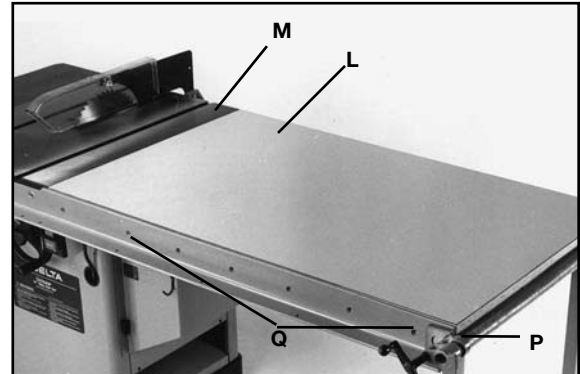

FIG. 12
9. Place table assembly (L) Fig. 12, in position between the two rails, as shown. Make sure end of table is flush against saw table (M). Using a straight edge make sure table (L) is in the same plane and level with saw table (M). Lightly tap up or down and adjust leg leveling screws. When you are certain table (L) is level and in the same plane with saw table (M) tighten bar clamp (P) to hold everything in position. Then drill 1/4" holes through the front and rear of the extension table using holes (Q) provided in rails as a template. NOTE: Number of holes (Q) in the front and rear rails will vary depending on the length of the rails you purchased.